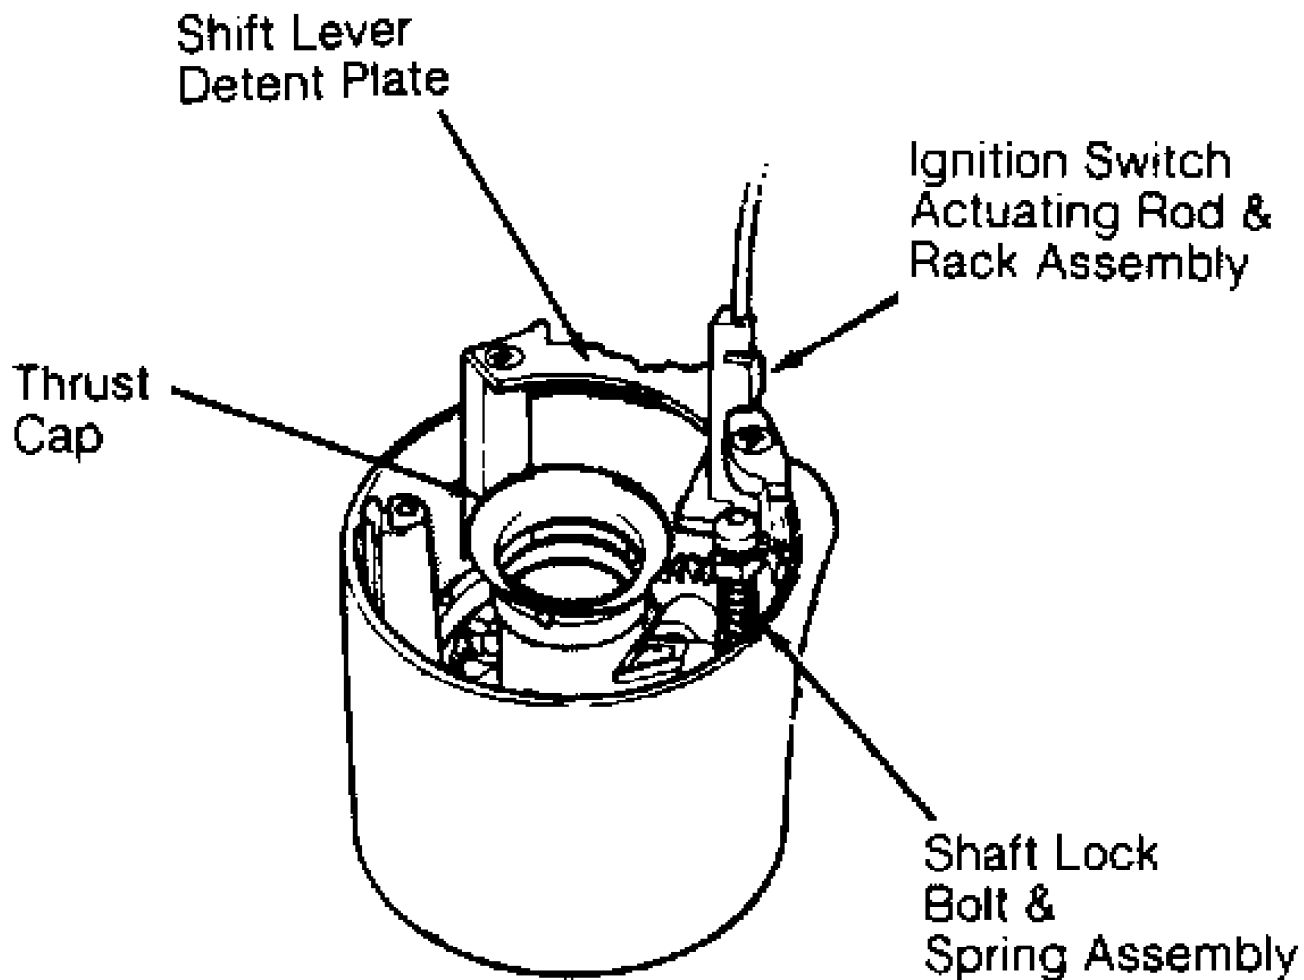

Fig. 4: Identifying Key/Lock Cylinder Housing
7) Remove thrust cap and ignition switch actuating rod and rack. Remove rack preload spring, shaft lock bolt and spring from housing. Remove shift lever detent plate from housing. See Fig. 4.